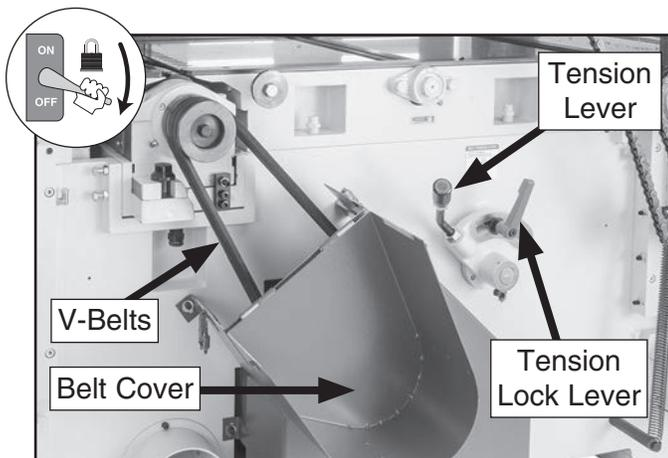

Figure 85. Location of lower cutterhead V-belts.
2. Open chain drive access door and lower cutterhead belt cover (see **Figure 85**).
4. Loosen tension lock lever (see **Figure 85**) and press down on tension lever (see **Figure 85**) until there is proper tension on V-belts. While holding tension lever down, tighten tension lock lever.